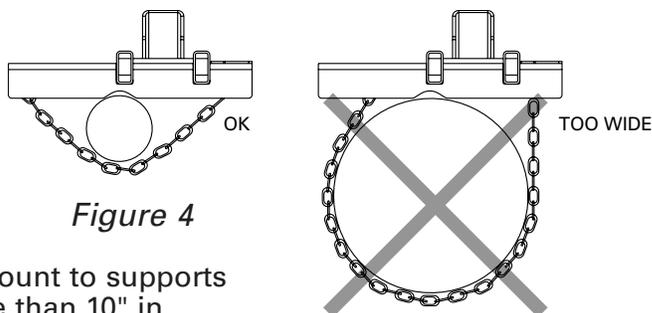

Figure 4
- ⚠ WARNING** When using the Model #2280 floor mount or Model #2281 chain mount, ALWAYS ensure the cable puller is properly pinned onto the floor/chain mount and that the floor/chain mount is properly secured before operating. ALWAYS attach the Model #2281 chain mount to supports that are at least 2" and not more than 10" in diameter. (See Figure 4). NEVER attach to PVC conduit of any size.